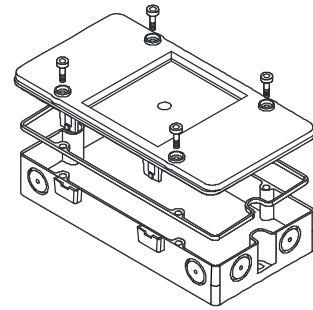

Fig. 11
5. Insert the seal and fix the lid additionally with four screws (Fig. 11) (only this way is IP65 protection guaranteed).